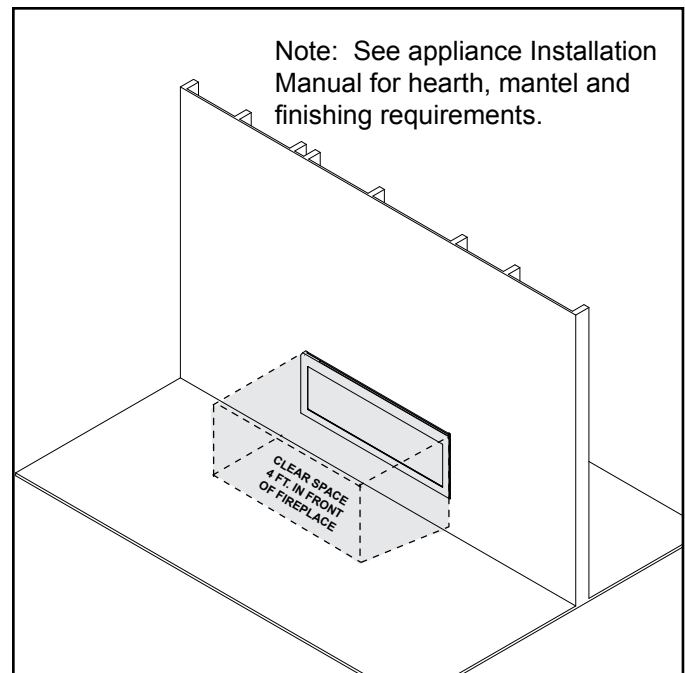

Figure 3.1 Clear Space
**WARNING! DO NOT place combustible objects in front of the fireplace or block louvers. High temperatures may start a fire. See Figure 3.1.**